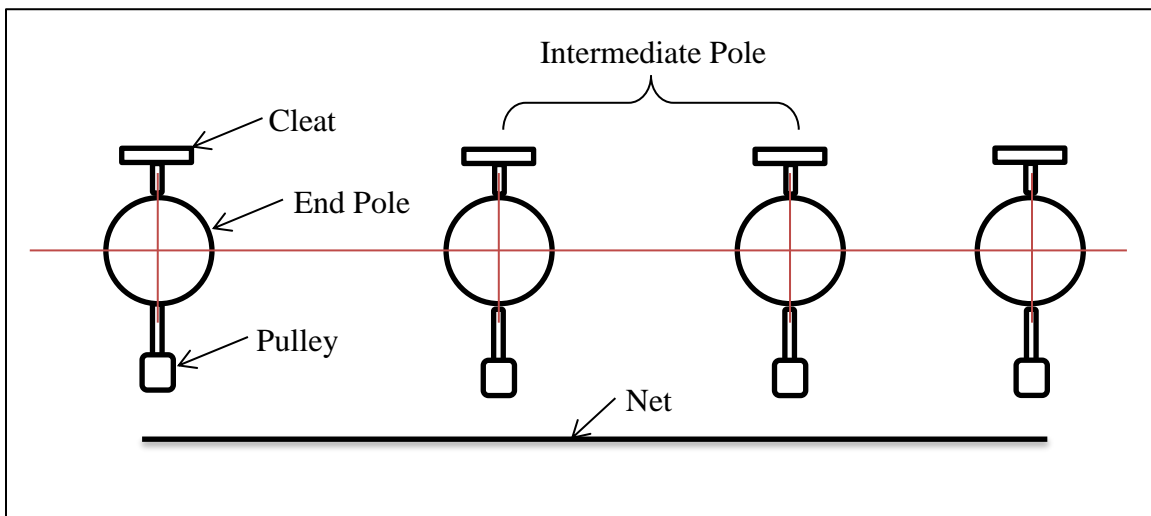

Figure 5
3. Note orientation (see Figure 5).